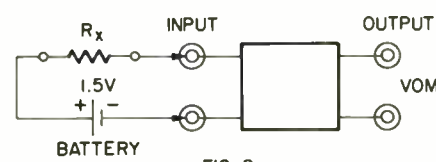

FIG. 2
**Resistance measurements in 1-500-megohm range:** Given the circuit shown in Figure 2